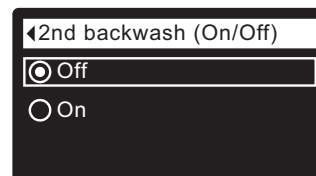

FIG. 80
- 8b. **Second backwash (On/Off):** If the desired option already has a dot next to it (See Figure 80), go to Step 9. Otherwise, press the DOWN (▼) or UP (▲) buttons to scroll to the other option, then press SELECT (O) to choose it. Setting this feature On adds a second backwash and rinse at the beginning of the recharge cycle. Default is Off. Set this feature On if your water supply contains a lot of sediment or iron.